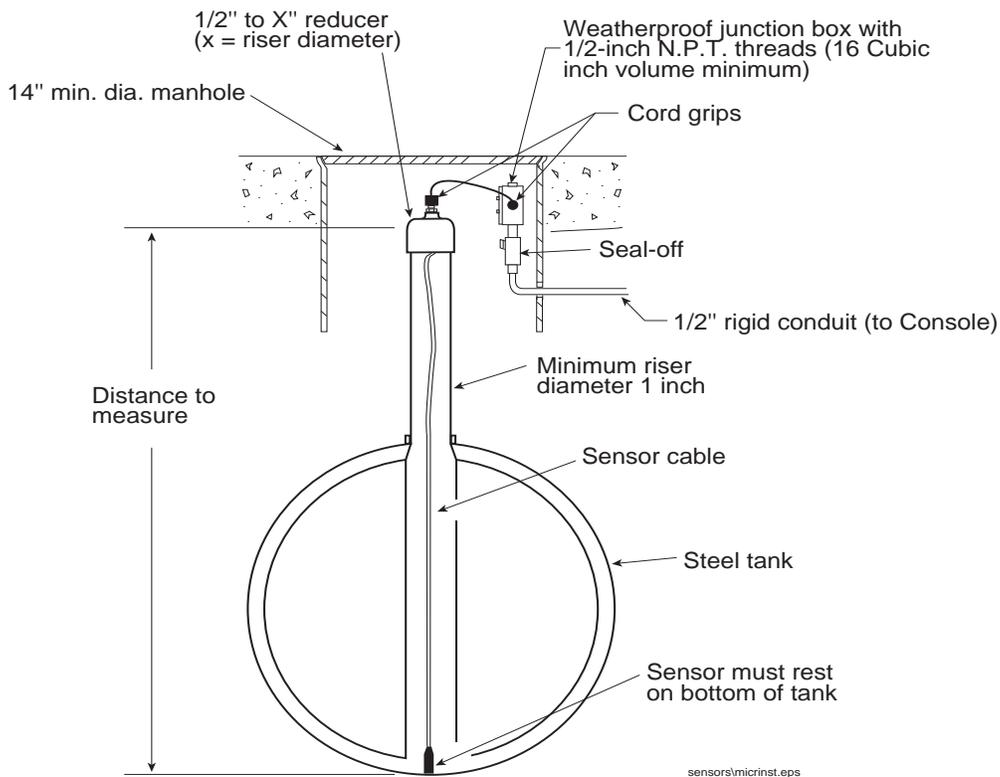

Figure 4. Sensor Dimensions and Installation - Steel Tanks
2. To be sure the sensor will reach the bottom of the annular space, first measure the sensor riser pipe from the bottom of the pipe to the top. (See *Distance to Measure* in Figure 4.) Then measure the same distance up the sensor leader cable from its connection to the sensing element and mark the leader cable. Do not use a knife or other sharp object to mark the leader cable to avoid damaging wire. Use instead, a marker, piece of tape, or a twist tie.